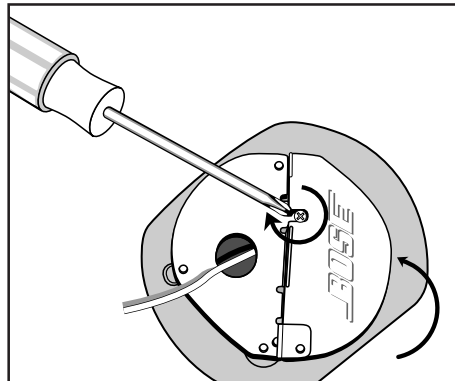

Figure 19
2. Close the cover and tighten the screw (Figure 19).
3. Close the loudspeaker cover and tighten the screw (see Figure 19).